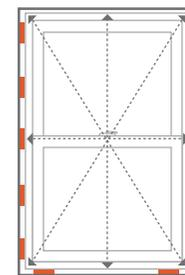

fig. 3 Single/Double-Hung window shown (interior view)
- Check for plumb and shim accordingly, shim side jambs 4" from the corners and at 8" intervals to ensure the window is plumb and square, when unit is level and plumb you may start fastening the window. (fig. 3)
- Ensure the window is level, square and plumb. (fig. 3)
- b. Ensure the window frame is level, square and plumb. (fig. 3)
- c. Ensure the window frame is level square and plumb. (fig. 3)
- Ensure the window is level, square and plumb. (**fig. 3**)